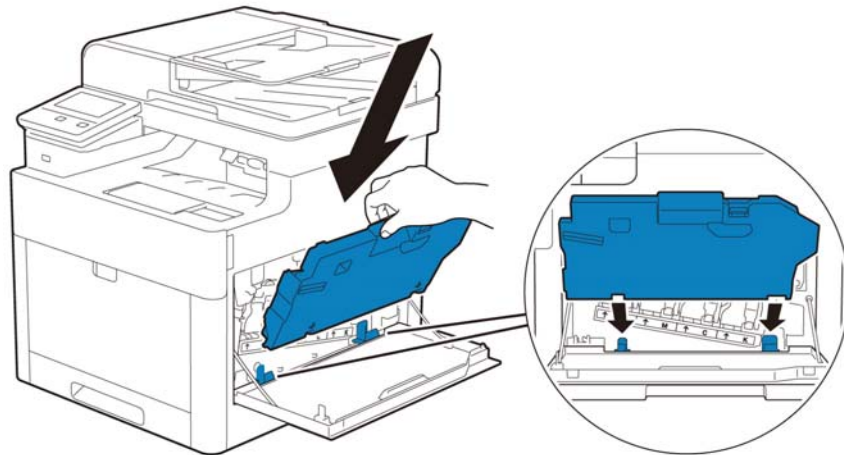

Figure 8 Insert the waste toner box.
10. Insert the waste toner box, Figure 8. Make sure that the two indented parts on the bottom go into the brackets on the printer.